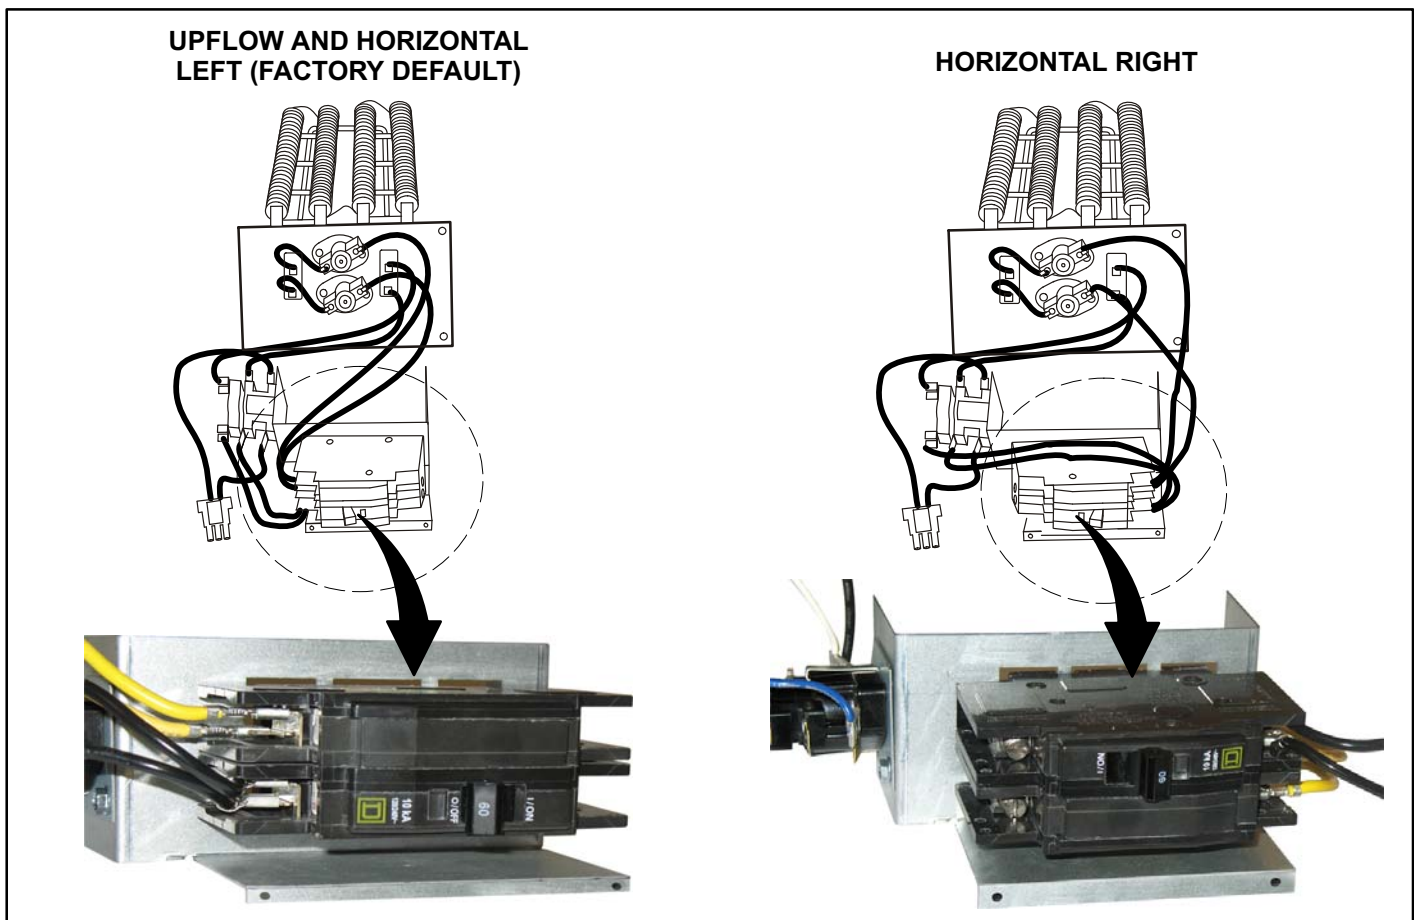

Figure 9. Circuit Breaker Orientation
1. The factory default configuration for the two circuit breakers is horizontal left-hand discharge which will require no change (see figure 9). To change the applicable circuit breakers orientation for right-hand discharge, proceed to step 2.
3. Flip the breaker so that the wires attached to the circuit breaker terminals are on the left side (see figure 9).